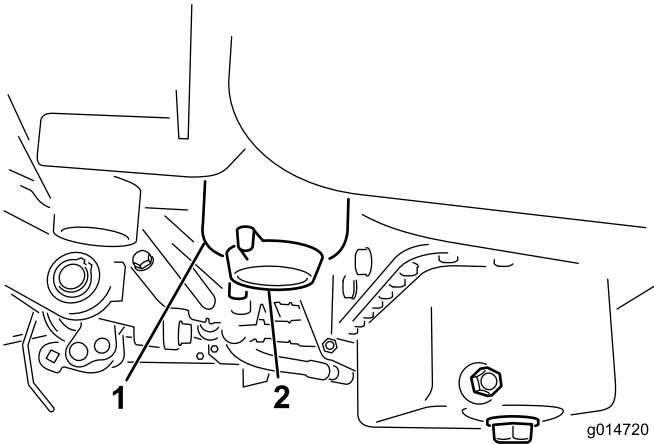

Figure 46
2. Clean the area where the filter canister mounts (Figure 46).
4. Open the filter drain plug (Figure 46).